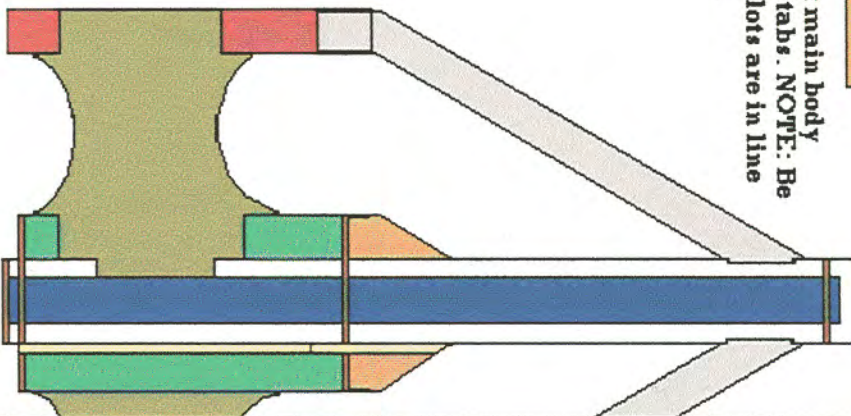

Figure 9
A. Mount the canards onto their lines as shown in Figure 9. Filllet all joints. Prime and sand as desired.